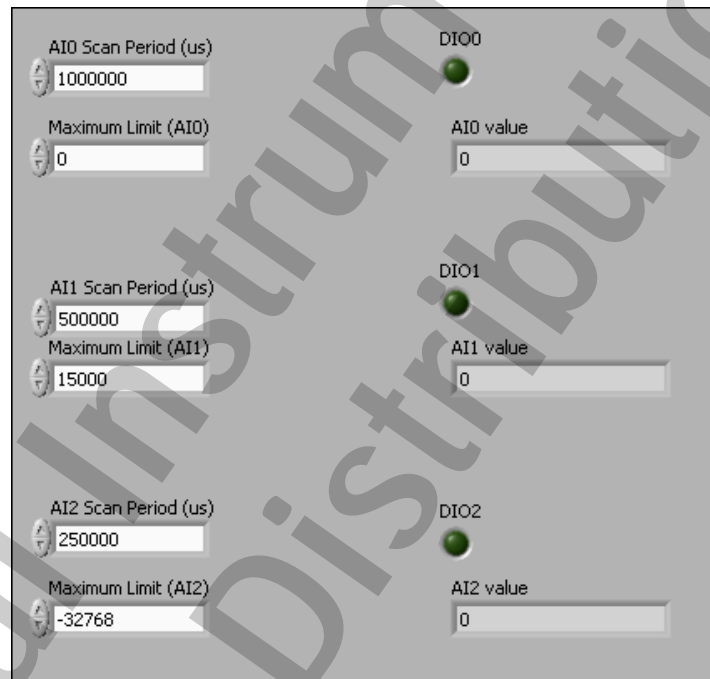

Figure 10-4. Multiple AI Monitor FPGA (Main) VI Front Panel
2. Set the controls to the values shown in Figure 10-4.